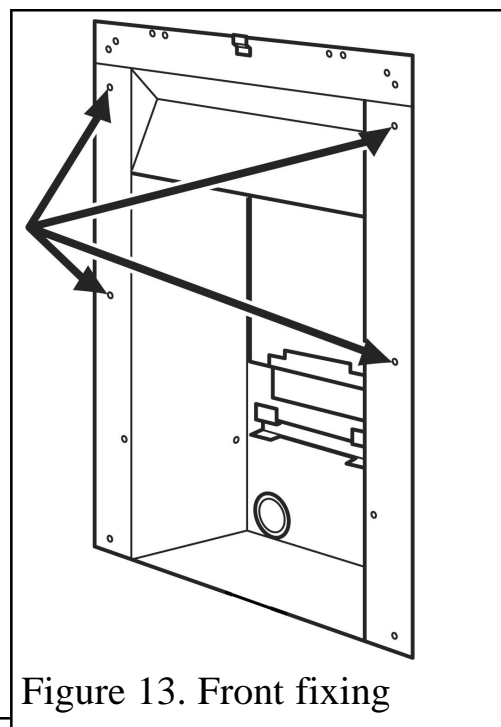

Figure 13. Front fixing
3. Mark the fireplace front surround through the four fixing holes in the side flanges of the hotbox (See figure 13).